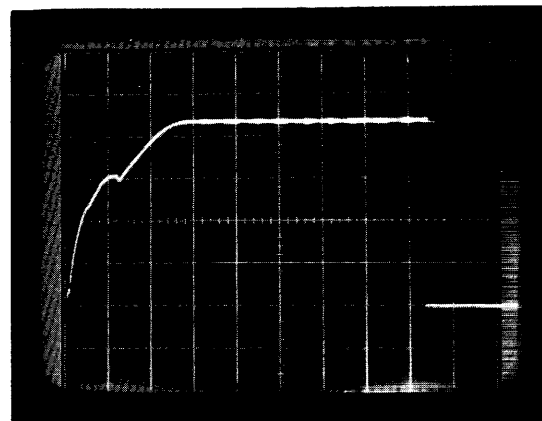

Figure 30.5
| 30.2 Refer to Figure 30.5
30.3 Figure 30.5